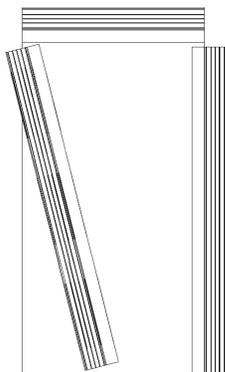

Fig. 4
2. Start jamb over wall at head and swing bottom into place. (Fig. 4)